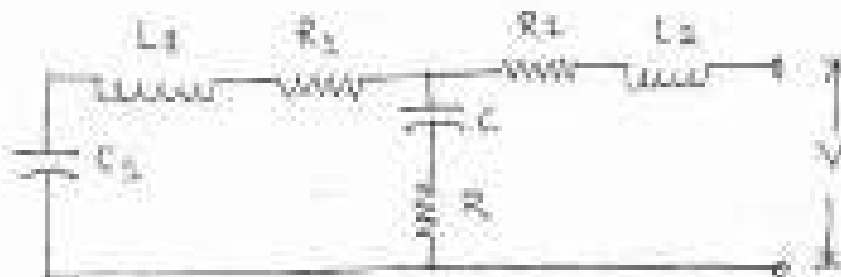

Figure 1.1(c)
- c) For the electrical network shown in figure 1.1(c) construct mechanical system using inverse analog. [6]